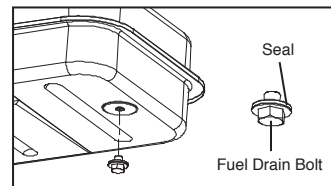

Figure 10. Fuel Drain Bolt
(For KFA135DGD/180DGD/220DGD Models Only. See Figure 10)
5. Reinstall fuel drain bolt to Fuel tank and tighten firmly using 3/4” socket or adjustable wrench. (For KFA135DGD/180DGD/220DGD Models Only. See Figure 10)